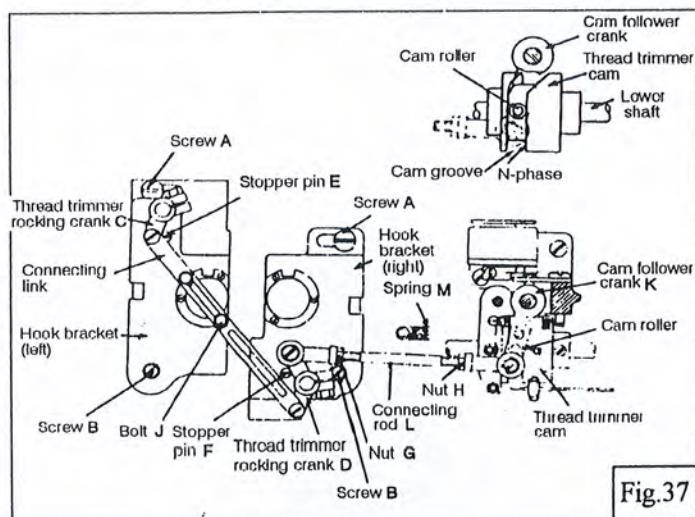

Fig.37
27) Adjustment for change of needle-to-needle distance (Fig.37)